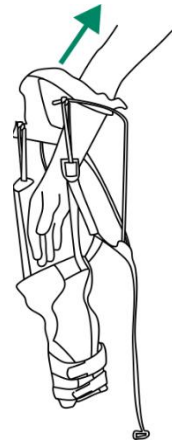

Figure 1
1. Put the arm through the bracket and arm cuff (Fig. 1).